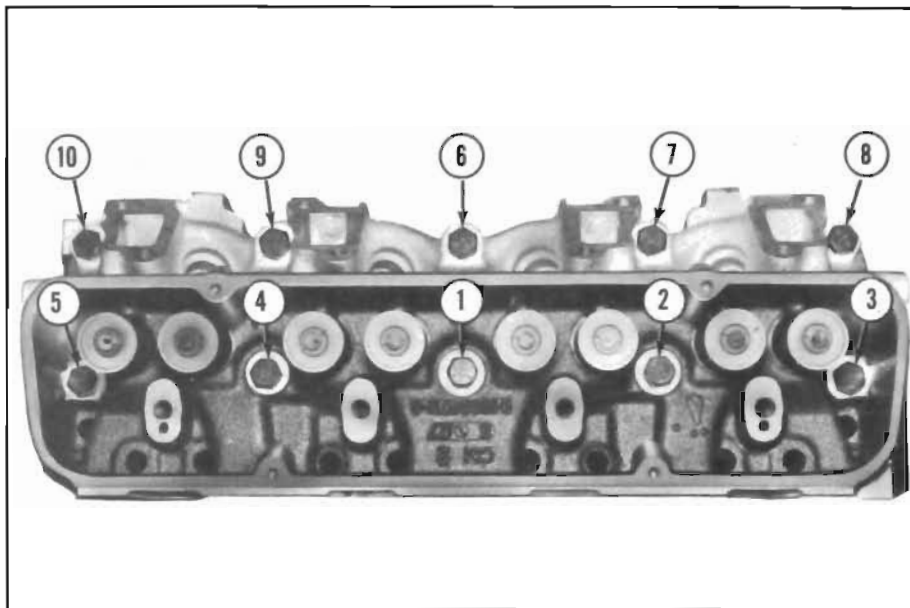

Figure 2-61—Cylinder Head Bolt Tightening Sequence
6. Tighten the head bolts a little at a time about three times around in the sequence shown in Figure 2-61. Give bolts a final torque in the same sequence. Torque to 70-75 lb. ft.